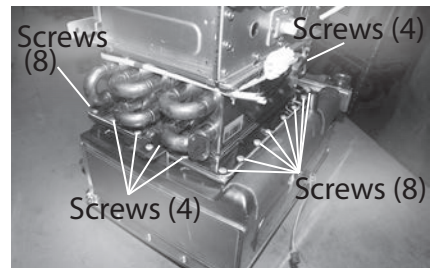

Figure 158 - Removing HEX assembly screws
- 50** Once brackets have been removed, locate the 24 screws securing the primary heat exchanger to the secondary heat exchanger. Remove screws and place aside in a safe place for reinstallation. See Figure 158.
- 69** Secure primary HEX to secondary HEX with the 24 screws previously removed in **Step 50**. See Figure 158 as reference.